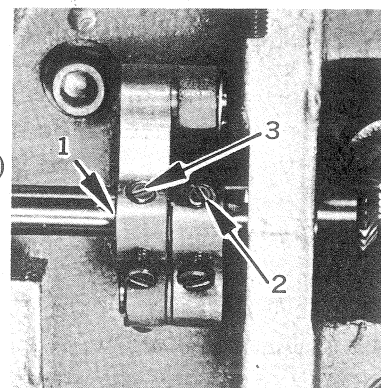

Fig. 16 277RFS
1. Lay down the machine head toward the other side, and check that the screw (2, Fig. 16) is securely tightened on the V ditch (1, Fig. 16).